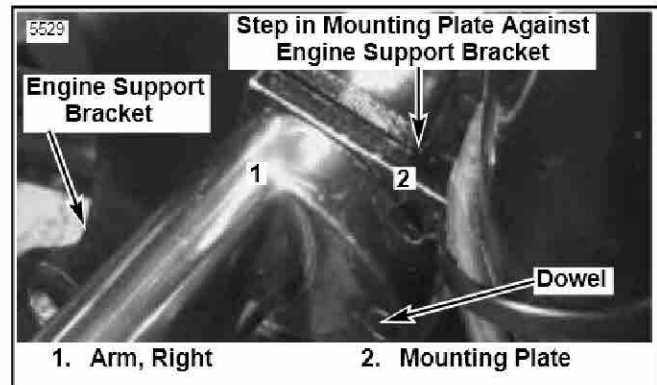

Figure 1. Adjustable Footpeg Installation (Right Side of Vehicle)
See Figure 1. Place the right arm (1) on a mounting plate (2) with the arm dowel in the selected position hole (choice of three) in the mounting plate (2). Align the arm (1) bolt hole with the bolt hole in the mounting plate (2).